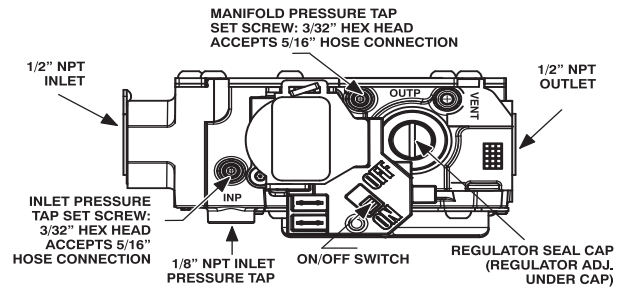
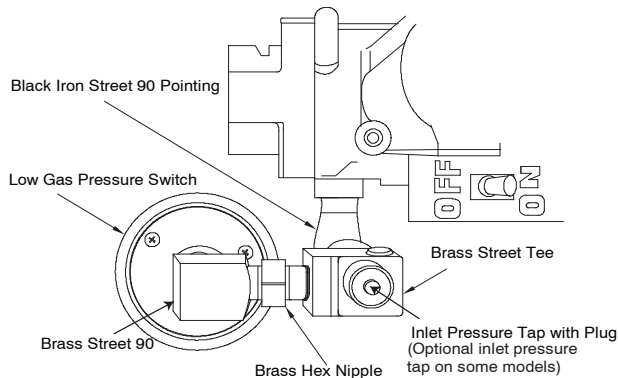

Fig. 9 – Single-Stage Gas Valve with Tower Pressure Ports
Fig. 10 – Low Gas Pressure Switch Removal
1. Refer to Fig. 9.
3. Remove the brass cap that conceals adjustment screw for the gas-valve regulator. See Fig. 9.
3. Apply pipe dope sparingly to the male threads of the 1/8-in. brass street tee. Install the male end of the street tee as shown in Fig. 10. One opening on the street tee should face you. The other opening should be parallel with the inlet of the gas valve.
4. Apply pipe dope sparingly to the male threads of the 1/8-in. brass hex nipple. Install the hex nipple into the open end of the brass street tee. See Fig. 10. The hex nipple should be parallel with the boss on the gas valve.
1. On some models, remove 1/8-in. (3 mm) pipe plug from inlet pressure tap on the inlet end of gas valve (see Fig. 10) and insert pressure tap. Or, on some models, loosen set screw on inlet tower pressure tap no more than one full turn with the 3/32-in. hex wrench. See Fig. 9.
2. Verify manometer is connected to inlet pressure tap on gas valve. See Fig. 9.
13. On some models, apply pipe dope sparingly to the end of inlet gas pipe plug and install into unused end of 1/8-in. (3 mm) tee. Use a small back-up wrench on tee when tightening gas inlet pipe plug. Or, on some models, tighten set screw on inlet tower pressure tap with a 3/32-in. hex wrench. See Fig. 9.
3. Attach manometer to manifold pressure tap on gas valve. See Fig. 9.